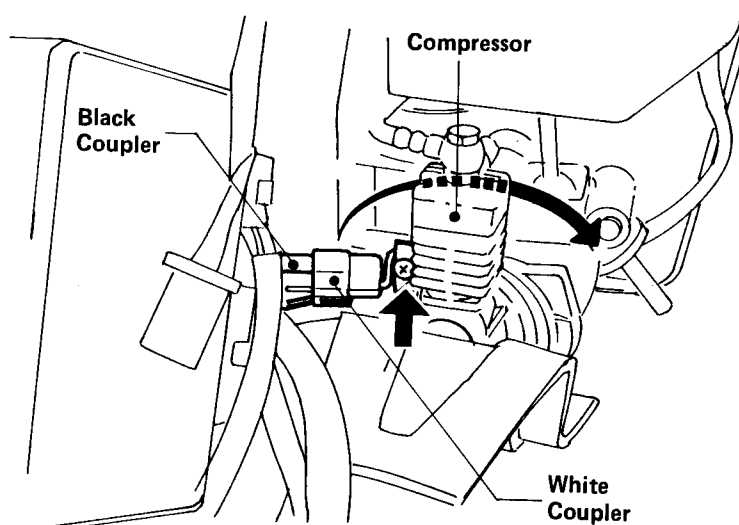

Fig. 16-2
- 2) Remove screw and clamp securing compressor wires. (Fig. 16-2)